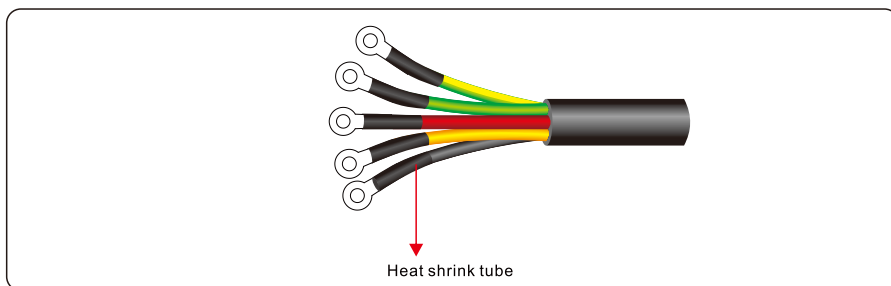

Figure 5.5 Crimping the OT terminal
Step 2 Insert the exposed core wires into the crimp area of the OT terminal and crimp them using hydraulic pliers. Wrap the wire crimp area with heat shrink tube or PVC insulation tape, as shown in Figure 5.5.